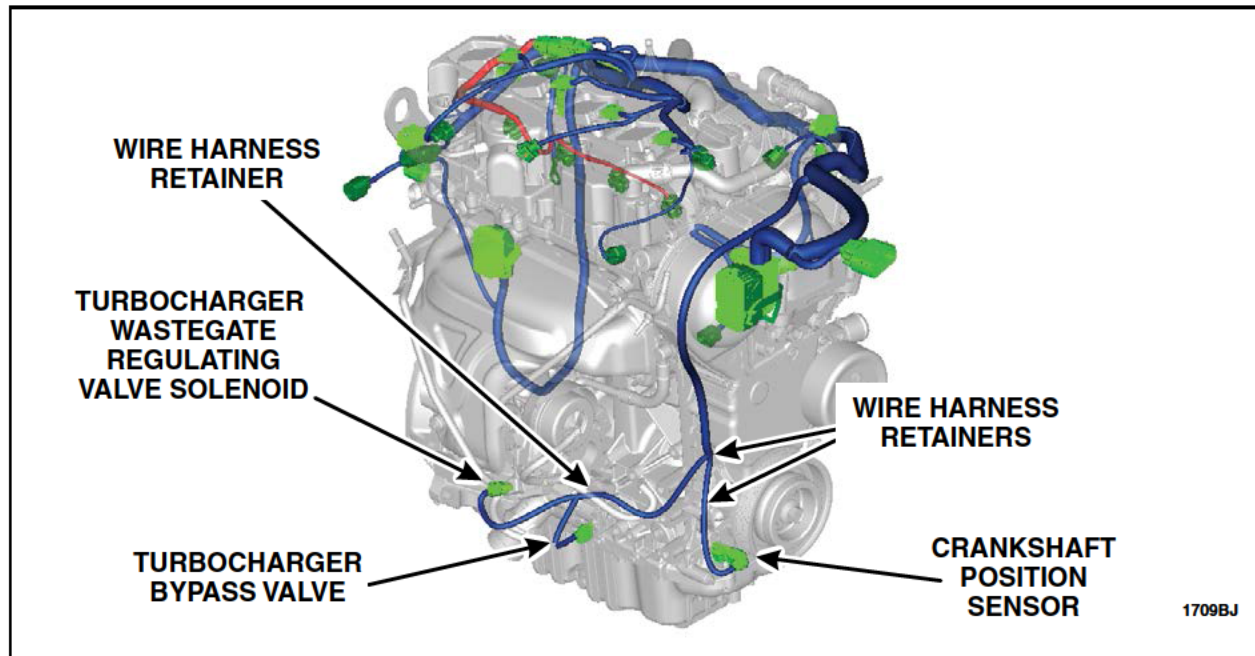

FIGURE F1
NOTE: Figure F1 is for reference only the harness retainers were previously disconnected in Procedure A.
2. If broken, replace the wire harness retainer with the *new* one supplied in the vehicle parts kit. See Figures F1 and F2.
4. Route the wire harness back down to the crankshaft position sensor, turbocharger wastegate regulating valve solenoid, and turbocharger bypass valve. See Figure F1.
5. Connect the crankshaft position sensor, turbocharger wastegate regulating valve solenoid, and turbocharger bypass valve electrical connectors. Attach the wire harness retainers to the engine. See Figure F1.